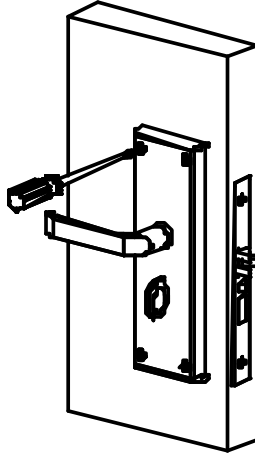

Figure 17
17) After put battery box into the lock body, tighten all 4 set screws on backboard. Show as Figure 17.